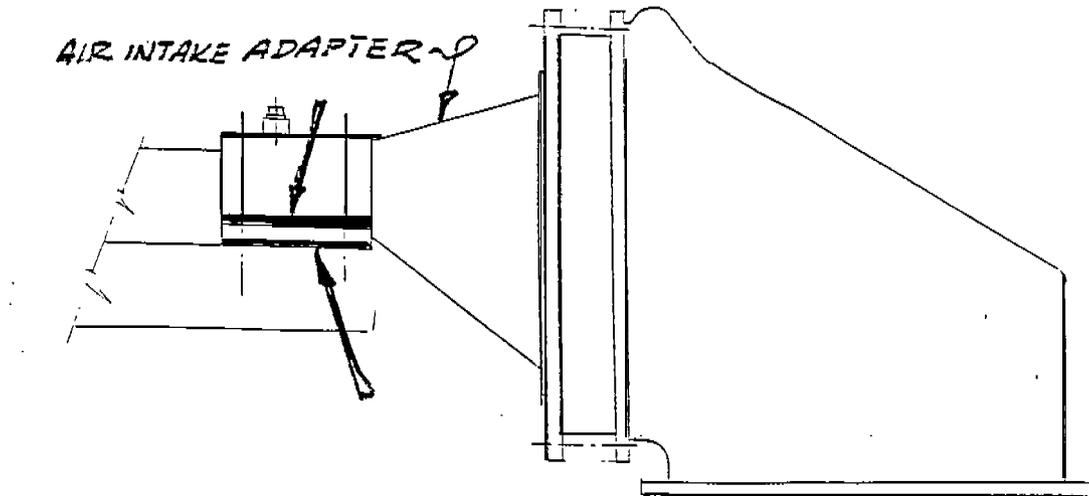

Figure 2. Gaskets Between Air Intake Adapter
- (WEEKLY) 4. () The Air Intake Adapter is mounted to the engine Intake Manifold via a Spacer plate and (2) copper gaskets. One gasket is placed between the Adapter and Spacer plate and one is placed between the Spacer Plate and Engine Intake Manifold as shown in Figure 2.